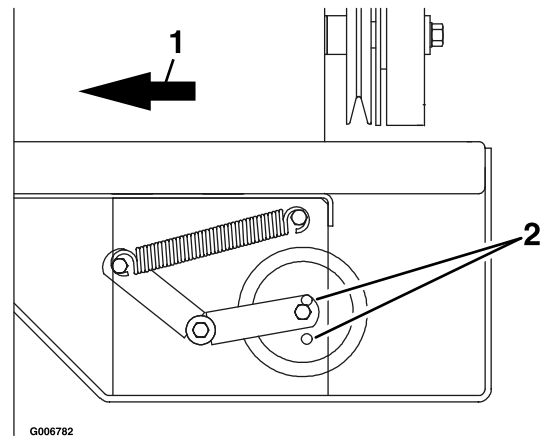
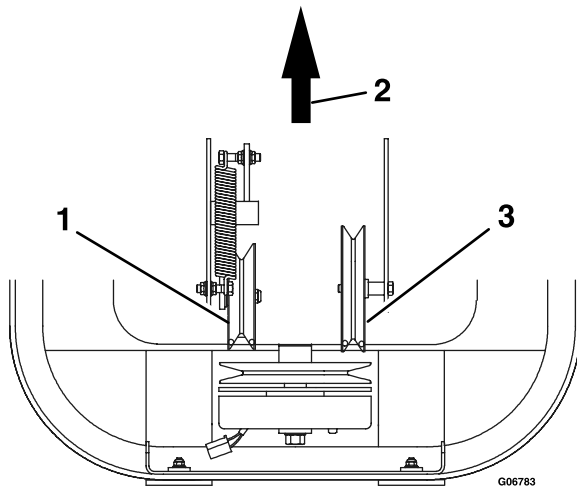

Figure 15
Figure 16
2. Check to make sure the center of the bolt head in the center of the spring loaded pulley, on left side engine deck support, is positioned between the centers of the two alignment holes in the left support plate (Figure 15 and Figure 16). It is necessary to adjust the belt tension when the